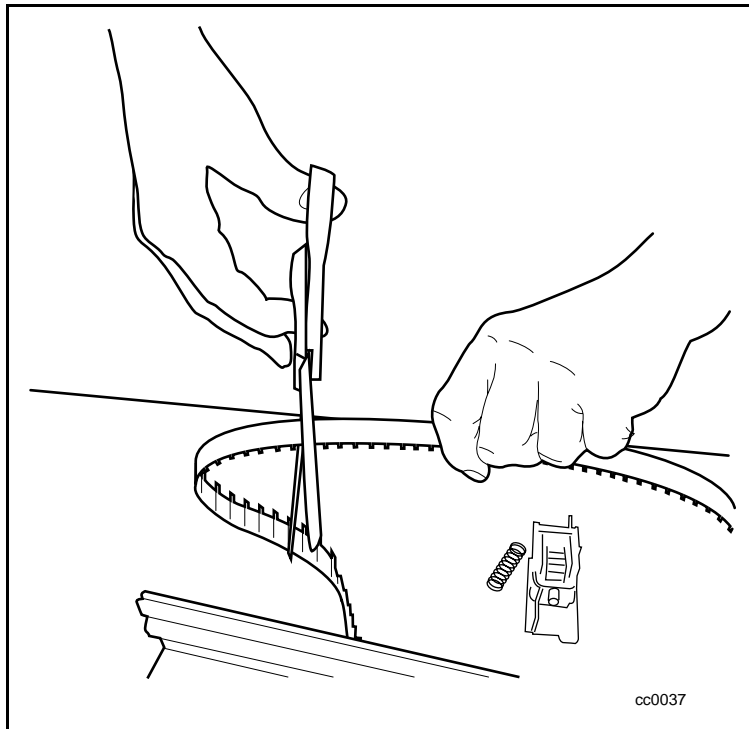

Figure C-18. Cutting the belt
1. Obtain a belt from extension kit and then cut it to the appropriate length (see Figure C-18).